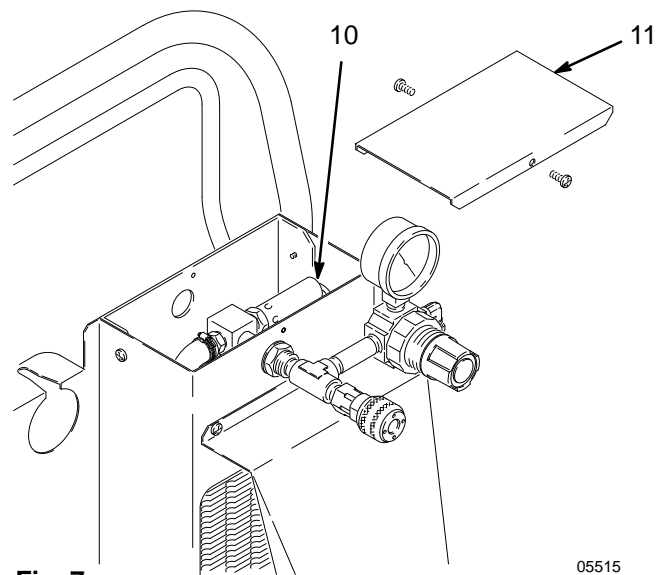

Fig. 7
3. A compressor pressure relief valve (10) is located under the cart's top panel (11). Air escapes from the valve, often causing a popping sound, when air flow at the gun is too restricted. The valve resets automatically when the air flow is increased. See Fig. 7.